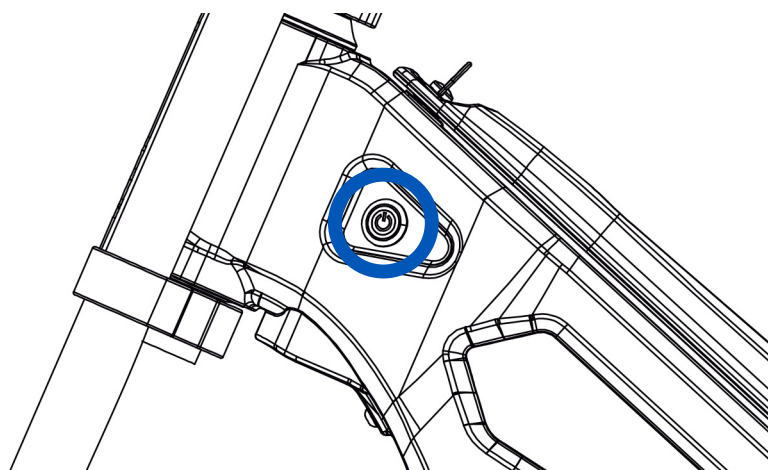

Fig. 12
- 1- Press the power button located on the left side of the upper frame (Figure 12).